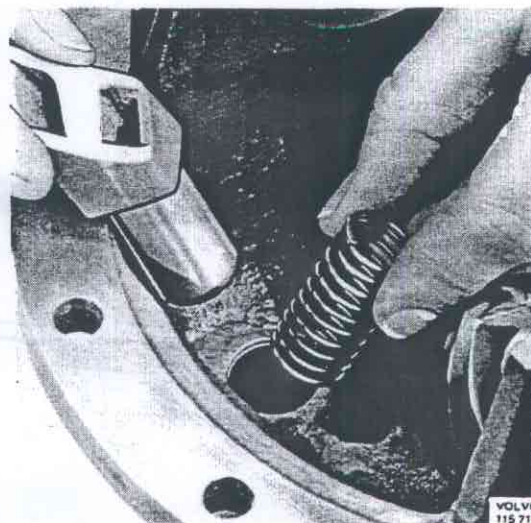

Fig. 46-40. Removing the oil scraper
6. Remove the oil scraper and spring, Fig. 46-40.